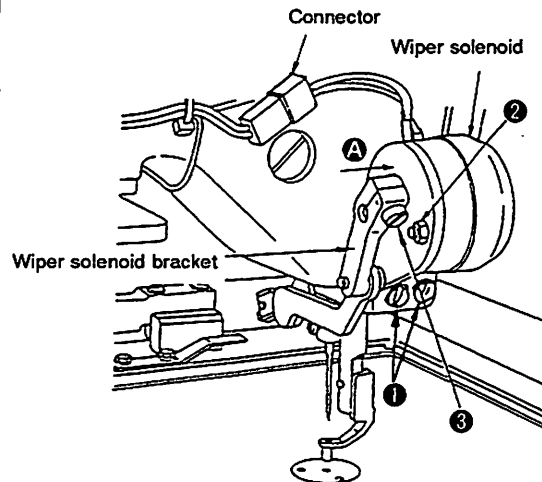

Fig. 5-44-1
- Be sure to fix wiper solenoid locknut ② by applying LOCK-TITE No. 242 paint. (Fig. 5-44-1)
- Wiper solenoid bracket setscrew ③ should be fixed in the position as described in the "STANDARD ADJUSTMENTS (9)." Press the wiper solenoid bracket in the direction of arrow ④, and determine the position of the bracket so that the specified distances are obtained. (Fig. 5-44-1)